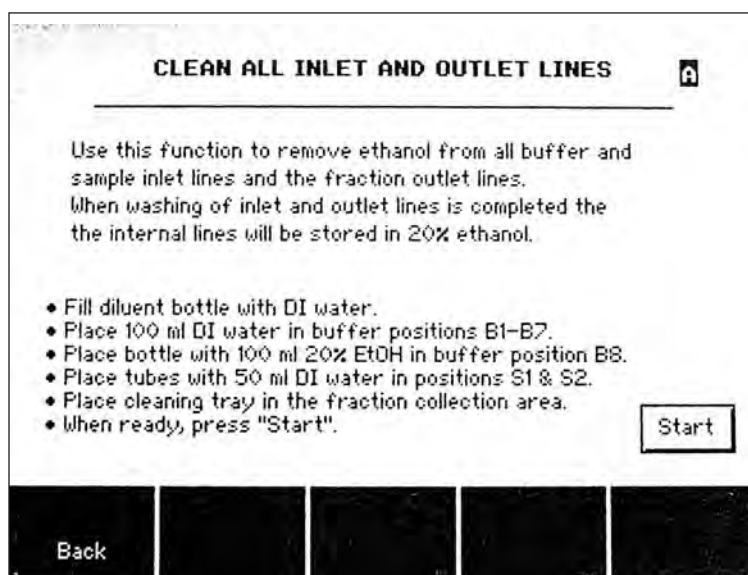

Fig. 2.7. Clean all Inlet and Outlet Lines screen.
3. Touch the arrow buttons to scroll through the list of functions and highlight “Clean All Inlet and Outlet Lines” (Figure 2.7). Select Start to perform this procedure. A new screen will display the progress toward completion. When the cleaning procedure is complete, the system will return to the Data/Utilities screen.